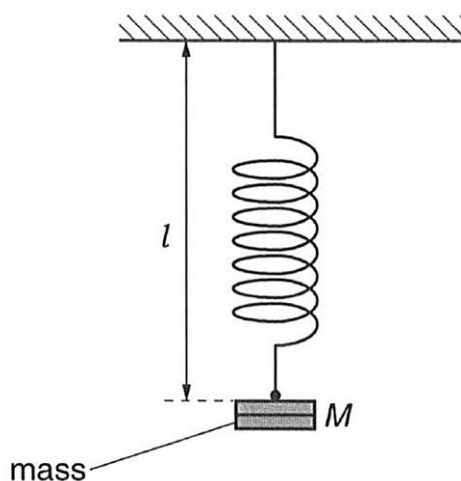

Fig. 3.1
- 3 One end of a light spring is fixed to a support. A mass is attached to the other end of the spring. The arrangement is shown in Fig. 3.1.